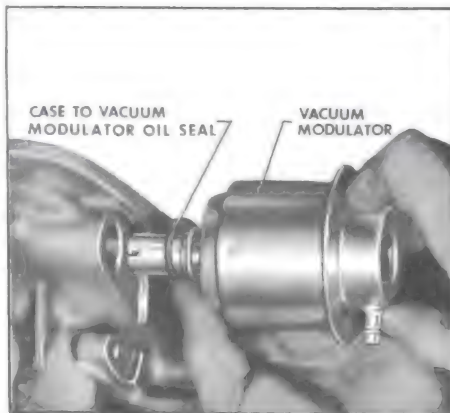

Figure 5-363
2. Install case to vacuum modulator oil seal. Install modulator into case. See Figure 5-363.